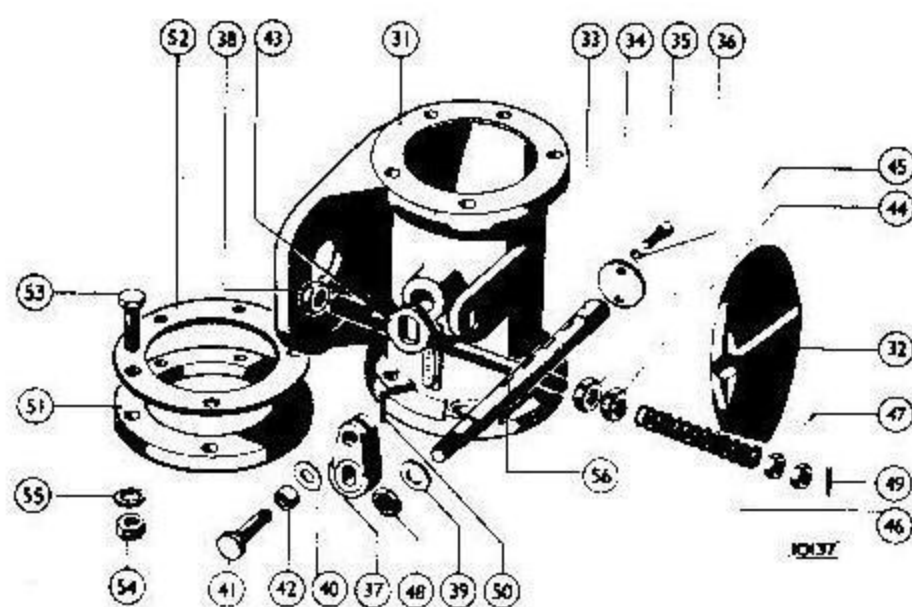
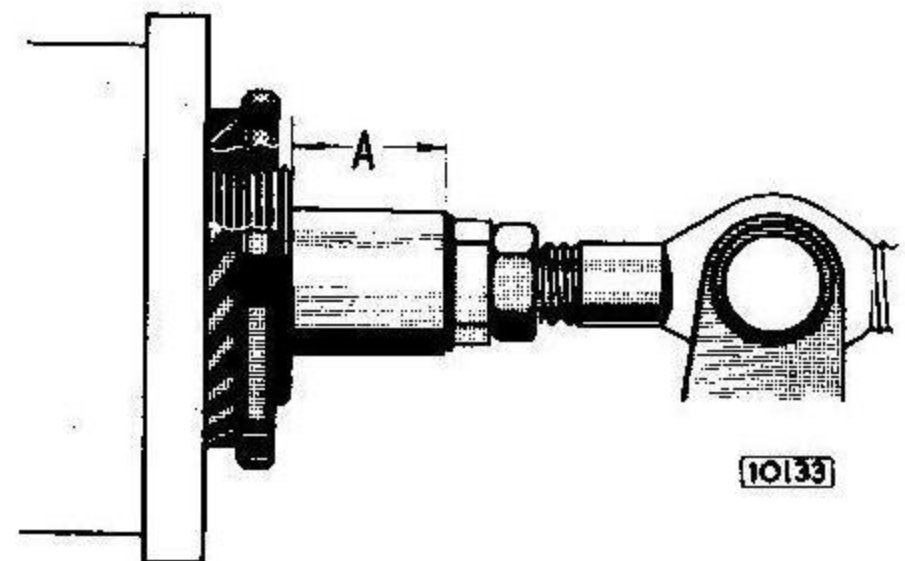

Fig. 2 Exploded view of the Ashanco Exhaust Brake
Fig. 3 The solenoid adjustment location
Check that the link arm (37) Fig.2 is tight on the spindle. Check that the return spring (46) opens the valve smartly when the solenoid linkage is released. Weak springs should be replaced immediately.
Dismantling (Fig. 2)
Open the valve fully and adjust the solenoid to $\frac{7}{8}$ " (22.2 mm) dimension as shown in (A) Fig.3. Adjust by screwing the nuts (44) Fig.2 and (45) up or down on the